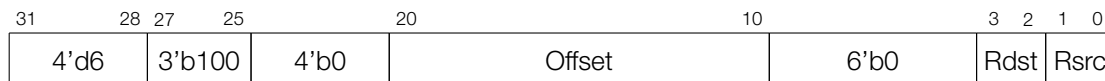

Figure 30-6. Instruction Type — ST
**Operand**    **Description** - see Figure 30-6